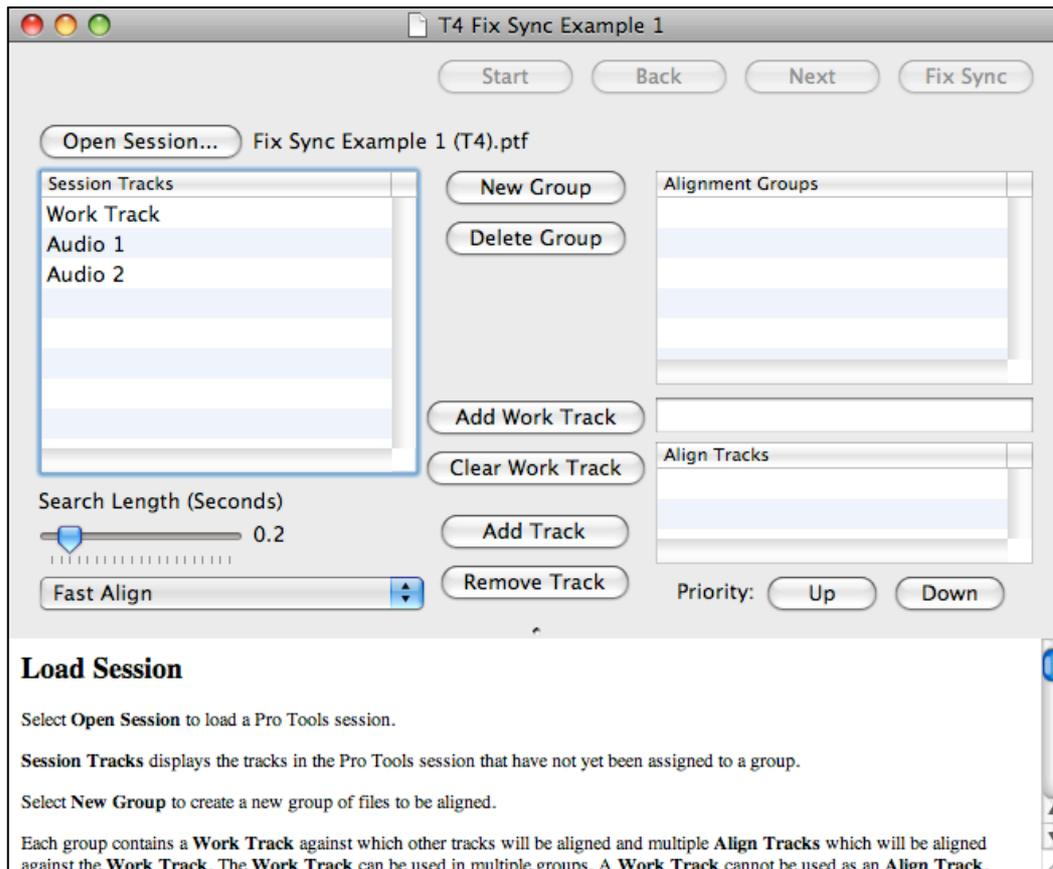

Figure 18 Fix Sync window with example session opened, showing session tracks
- The name of the session you chose will now be displayed in the Fix Sync window, next to the Open Session button, as shown in Figure 18. All of the session’s track names will now be displayed in the list headed Session Tracks.